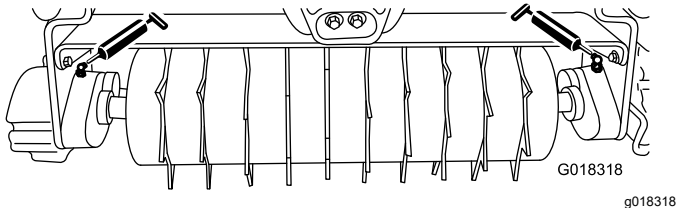

Figure 7
Lubricate the 2 grease fittings (Figure 7) on each spiker unit after every 15 hours of operation using a No. 2 lithium grease. For best results, use a hand-operated grease gun.
2. Wipe each grease fitting (Figure 7) with a clean rag.